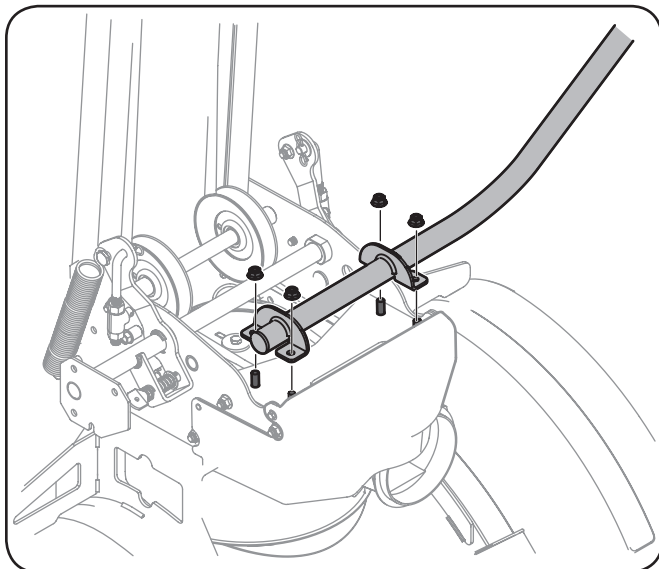

Figure 3-14
1. Using a $\frac{9}{16}$ " wrench, secure the chute crank assembly to the auger housing assembly with four flange lock nuts. See Figure 3-14.